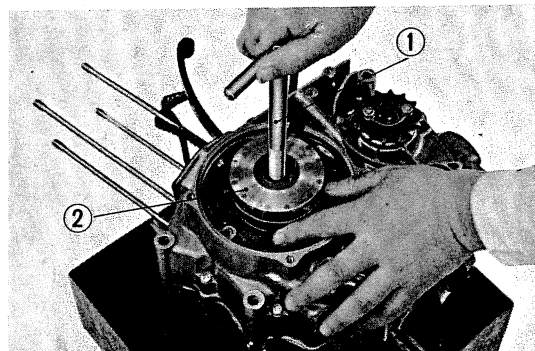

Fig. 77 Rotor removal
③ Cam chain guide
- 2) Remove generator mounting bolts and remove the rotor assembly. (Fig. 77)